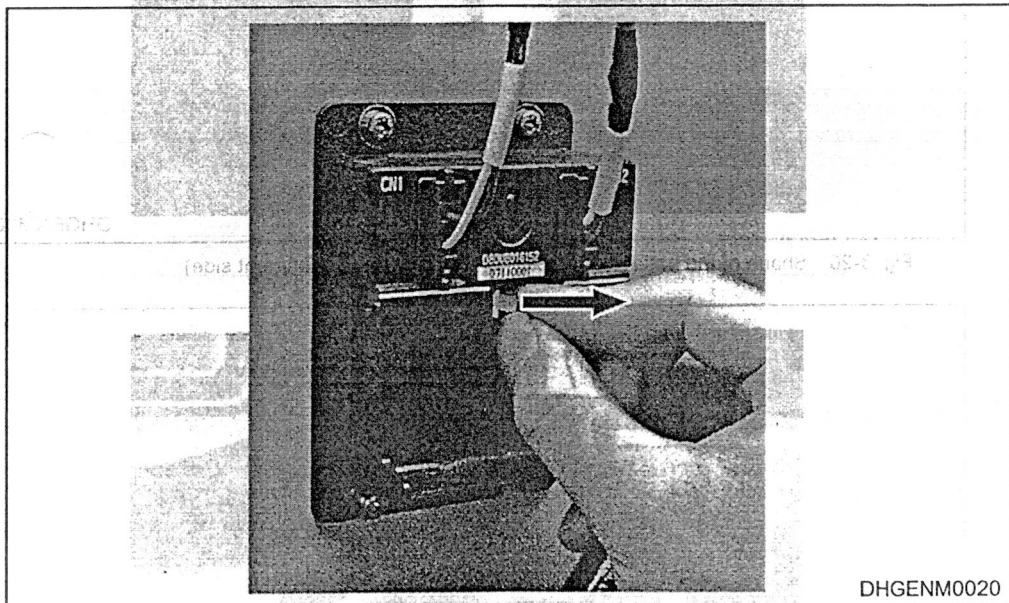

Fig. 3-18 Detachment of the connector
- Remove the batteries, holding the connector with hand. Detach the connector by pulling it in the direction of the arrow indicated in Fig. 3-18. If your fingers cannot be put in the battery compartment, hold the battery cable on the side closer to the connector and pull the connector in the direction of the arrow.